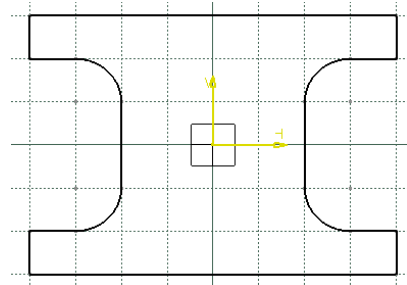

Figure 2-78 The sketch after drawing the outer loop and hiding the constraints
21. Move the cursor vertically downward and click to specify the endpoint of the line when it snaps to the start point of the outer loop. The sketch after drawing the outer loop and hiding the constraints is shown in Figure 2-78.